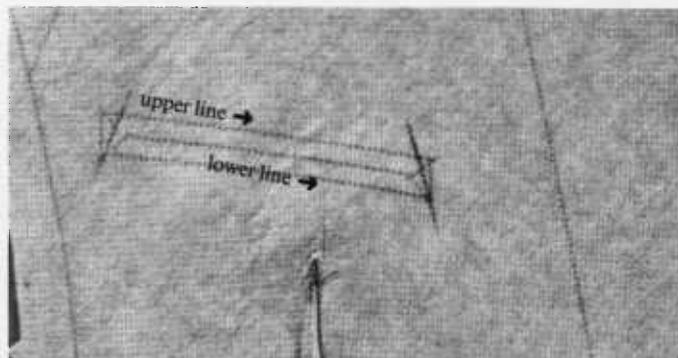

figure 36
- Check the transferred markings to see that the upper stitching line for the welt opening insert is shorter by 1/2" (1.3 cm) or 1/4" (6 mm) at each end than the lower stitching line (*figure 36*).